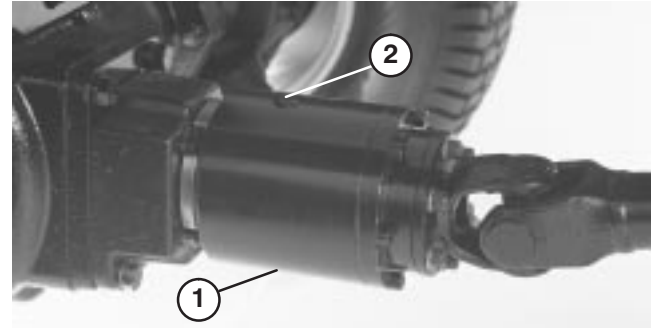

Figure 23
2. Rotate clutch (Fig. 23) so check plug (shown in 12 O'clock position) is positioned at 4 O'clock.